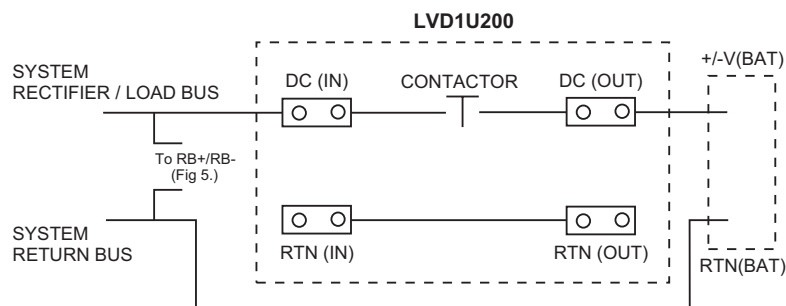

Figure 5b. Connection Schematic – Battery RTN connected to System RTN
- 11.3** Figure 5b shows battery disconnect operation with RTN(BAT) connected directly to system return.